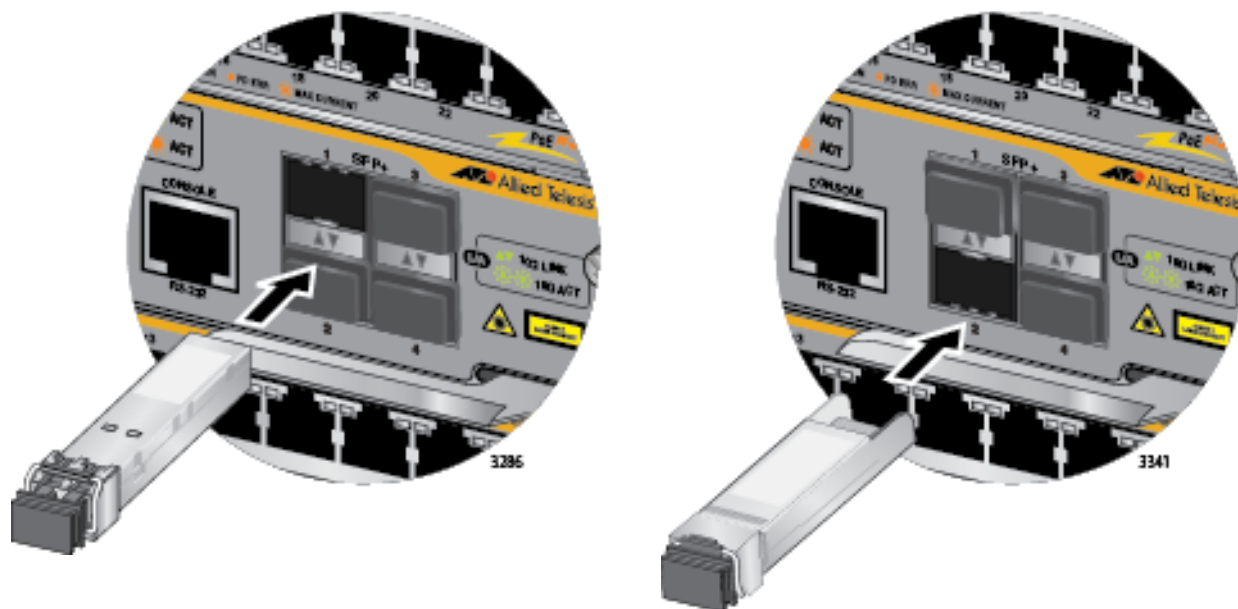

Figure 108. Installing an SFP+ Transceiver in the AT-SBx81CFC960 Controller Fabric Card
3. Slide the transceiver into the slot until it clicks into place, as shown in Figure 108 on page 182.